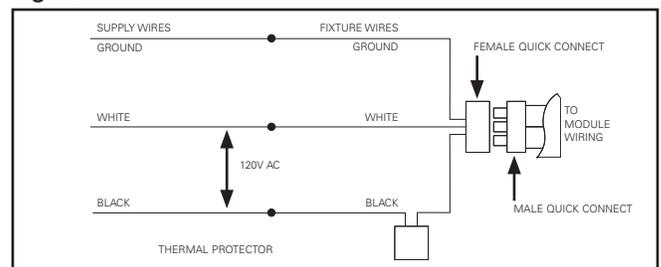

Figure 10.
- Connect supply wires to wires in fixture using proper sized wire nuts (not included). Be careful not to leave any bare current carrying conductors outside the wire nut connectors (Figure 10.).